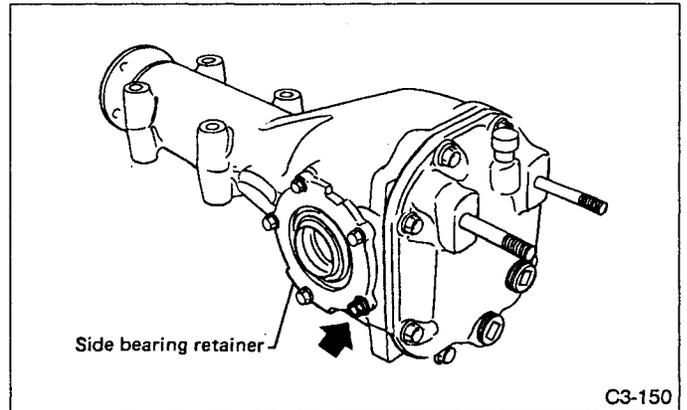

Fig. 71
8) Extract DOJ from differential using DRIVE SHAFT REMOVER (28099PA100). Use bolt (shown in Fig. 71) as a supporting point for REMOVER to prevent side bearing retainer from sustaining damage.